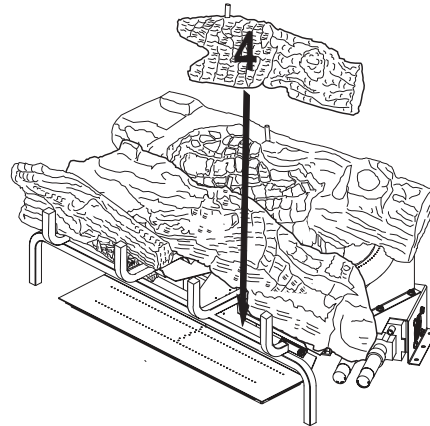

Figure 25 - Installing Log # 4
4. Place the front right log (#4) onto the base assembly between the middle log (#2) and the grate. The back of the front right log (#4) will rest against the front of the middle log (#2). The notch in the end of the front right log (#4) will fit around the grate bar. See Figure 25.